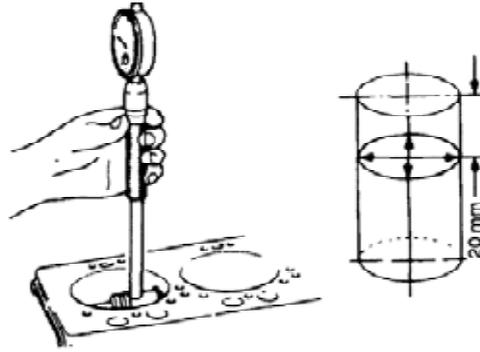

**Figure 20 Measuring Camshaft Follower and Bore Wear**
- c. Inspect the camshaft followers for pitting, cracking or wear (Figure 19). If no fault is evident, measure the diameter of the follower with a micrometer (Figure 20). The standard diameter is 27.92 to 27.98 mm (1.100 to 1.1016 in). Replace any follower which is pitted, cracked or has irregular wear, or if the diameter is worn below 27.92 mm.
- d. Measure a camshaft follower bore in the engine block with an internal micrometer (Figure 20) and subtract the diameter of the follower, removed from that bore (if the follower is serviceable), from the dimension found. The standard clearance is 0.02 to 0.1 mm (0.0008 to 0.0039 in). Repeat this procedure for each bore and camshaft follower. If camshaft followers need replacement, determine the clearance using a new follower. Replace the engine block if any bore exceeds the clearance limit.